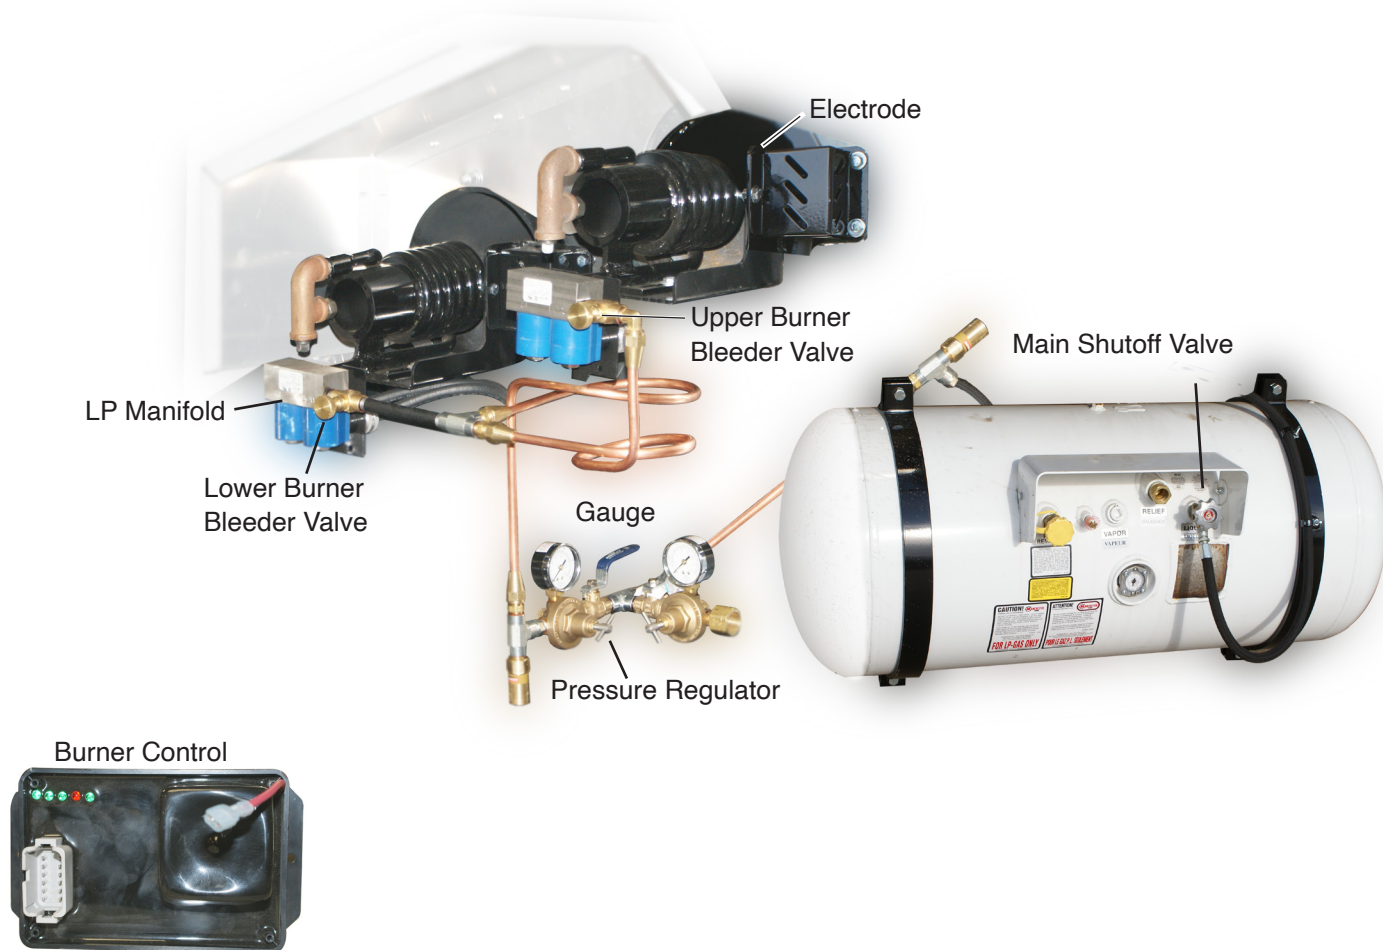

Figure 18. Burners with Automatic Ignition and Temperature Controls
The temperature limiting control box contains the temperature limiting control components as well as the automatic ignition circuitry. (See Figure 18)
1. Adjust electrode assembly per Figure 18.